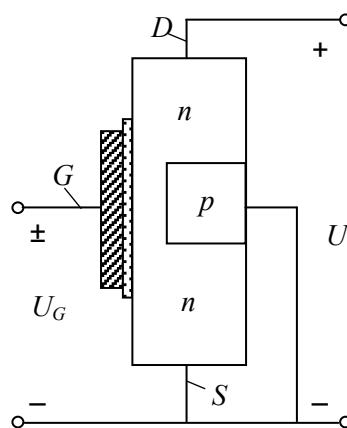
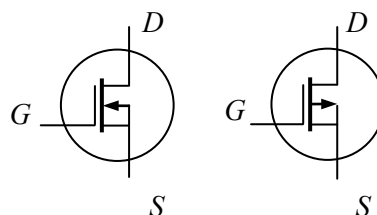

Fig. 1.35
Fig. 1.36
**Depletion-mode MOSFET.** Fig. 1.35 shows a structure and a way to bias an  $n$ -channel *depletion-mode MOSFET* with a  $p$ -region called a *substrate*. Usually, the manufacturer internally connects the substrate to the source that results in a three-terminal device. Schematic symbols of  $n$ -channel and  $p$ -channel depletion-mode MOSFETs are shown in Fig. 1.36. As with a JFET, the gate voltage controls the width of the channel between the gate and substrate where electrons pass from the source to the drain. The more negative the gate voltage, the smaller the drain current. When the gate voltage is negative enough, the drain current is cut off. However, because the gate is electrically insulated from the channel, one can apply a positive voltage to increase the number of free electrons flowing through the channel. Being able to use a positive gate voltage is what distinguishes the MOSFET from the JFET again. There exists also a  $p$ -channel MOSFET.